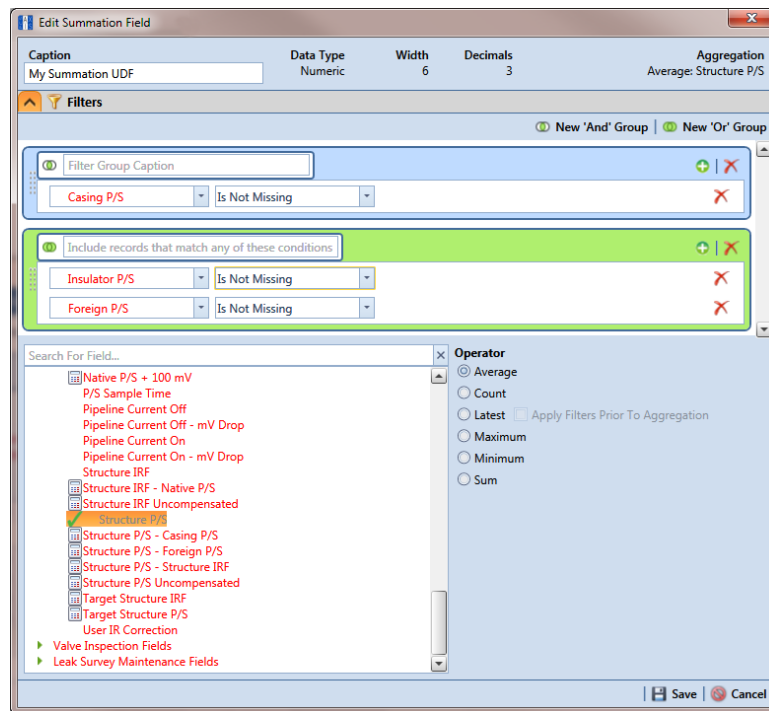

Figure 3-67. Edit Summation
- 4 When the dialog box *Edit Summation Field* opens, change UDF settings as needed, such as selecting a different *target field* in the list of fields in the selection panel or a different *Operator* option (Figure 3-67).